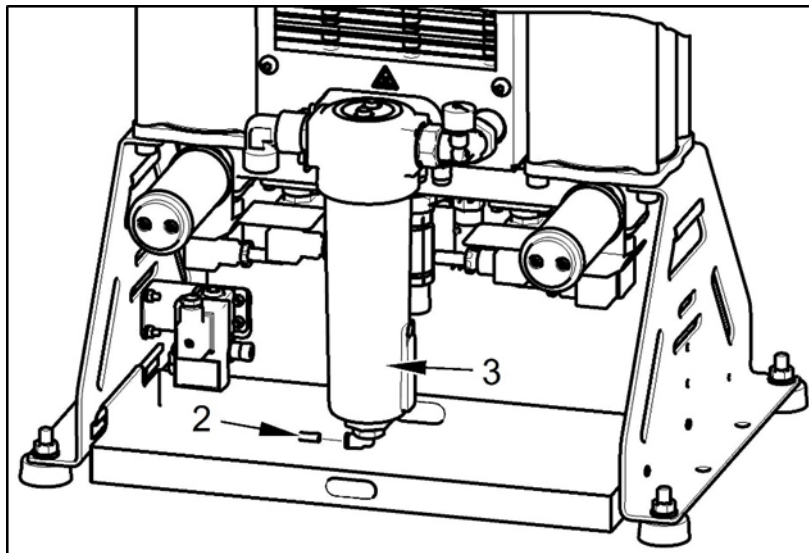

Fig. 31: Venting pressure from the cooler and condensate separator
- Disconnect the hose (2) from the lower part of the condensate separator (3) (Fig. 31).